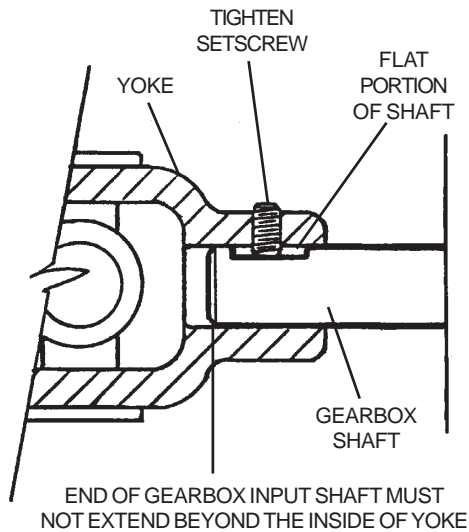

FIG. 56
1. Attach PTO driveline to gearbox input shaft by using 1/4" x 1-1/2" long square drive key. See Fig. 55. Secure PTO driveline to gearbox shaft by tightening setscrews in PTO driveline yoke. See Fig. 56 on page 42.
IMPORTANT: For setscrew to be properly engaged on the gearbox input shaft, the gearbox input shaft **MUST** be slid into the PTO driveline until the setscrew will sit on flat portion of shaft. (See Fig 56.) Do not extend the gearbox input shaft beyond the inside end of the yoke.